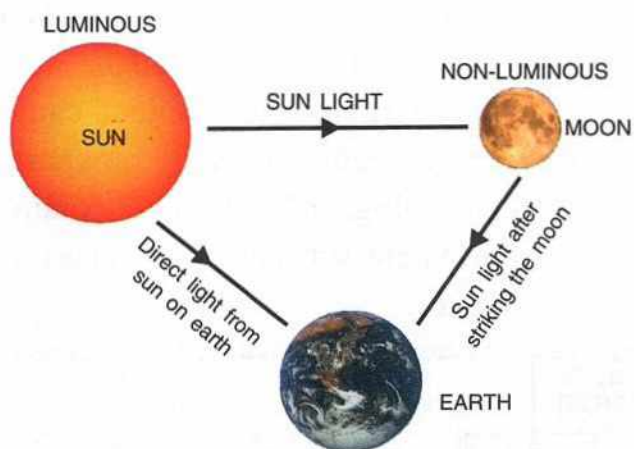

Fig. 5.3 Visibility of moon to an observer on earth
3. Seeing the moon : We see the moon shining at night. But moon is not a luminous body, it is non-luminous. It has no light of its own. The moon receives light from the sun. This sunlight after striking the moon reaches us on earth, due to which it is seen shining. Fig. 5.3 illustrates how the moon becomes visible to an observer on earth when sunlight reaches him after striking the moon.